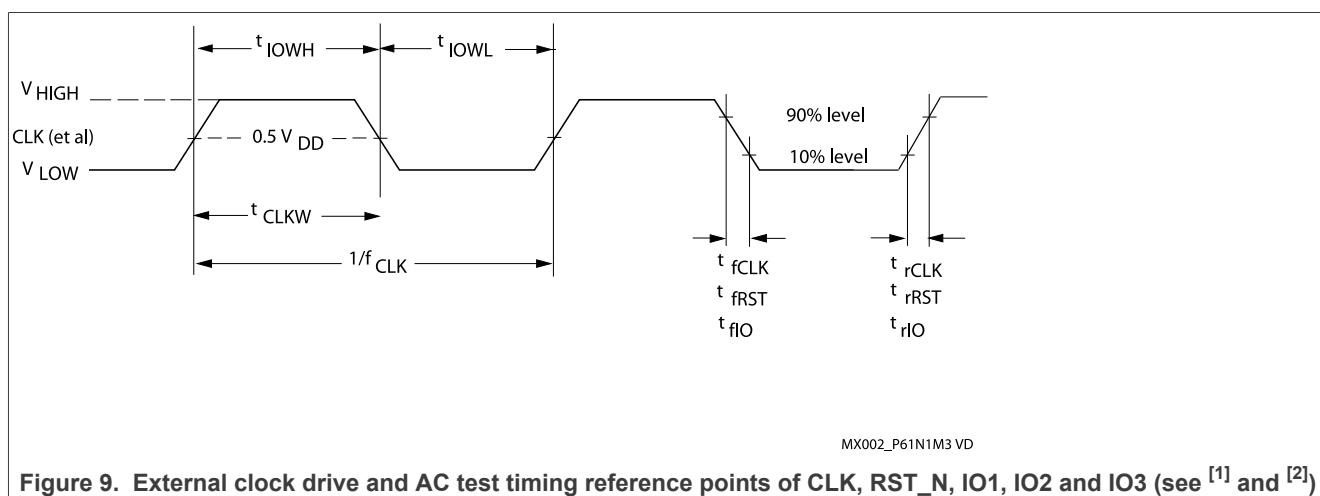

Figure 9. External clock drive and AC test timing reference points of CLK, RST_N, IO1, IO2 and IO3 (see ^[1] and ^[2])
- [5] During AC testing the inputs CLK, RST_N, IO1, IO2 and IO3 are driven at 0 V to +0.3 V for a LOW input level and at $V_{DD} - 0.3$ V to V_{DD} for a HIGH input level. Clock period and signal pulse (duty cycle) timing is measured at 50% of V_{DD} (see Figure 9).